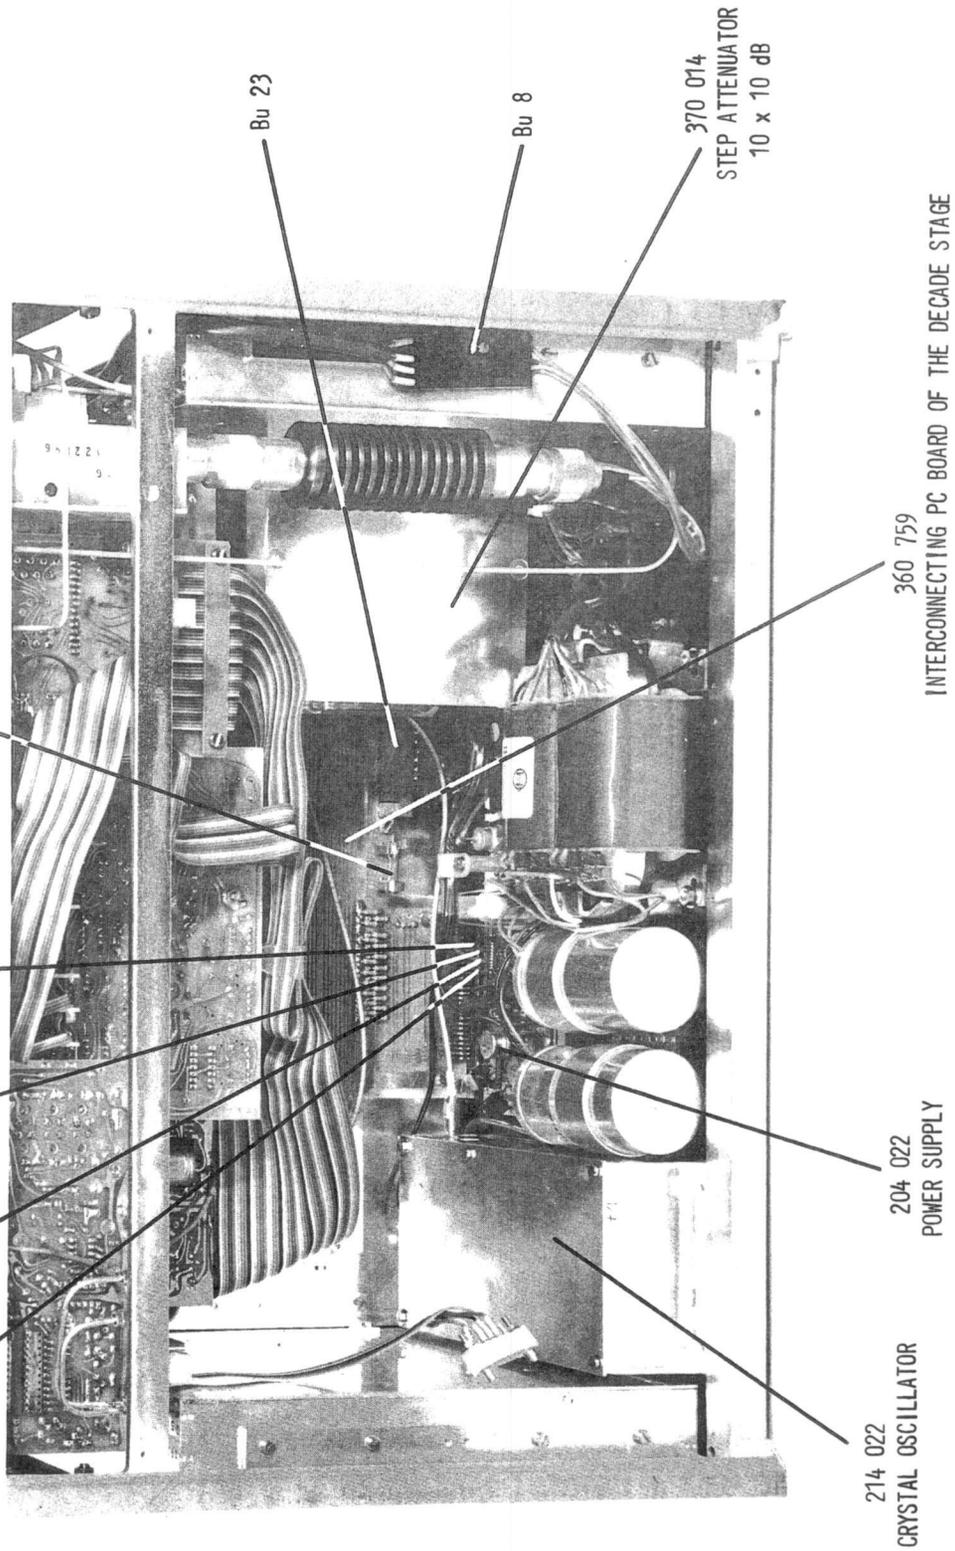

FIG. 3: BOTTOM VIEW
2. The Power Supply 204 022 is located directly on the inside of the instrument rear panel (fig. 3). Use test points recommended in fig. 3 for checking supply voltages. These test points as well as the fuse for the power supply of the Channel Selector Type 4932 are accessible subsequent to removal of the instrument bottom cover. To facilitate repair work on the Power Supply the instrument rear panel can be hinged open after having removed the 4 Phillips head screws connecting the bottom and top frame.
Should the Power Supply need to be operated in the hinged open position the connector St 8 (to mains switch fig. 3) must be disconnected and a two pole short-circuiting link (HNK 898 030) used instead of the mains switch.
- ⑤ Disconnect jack Bu 8 (see also fig. 3)
- ⑥ Disconnect two cable clamps
- ⑦ Disconnect cable from jack Bu 13
- ⑧ Remove 4 x 2 slotted head screws on case frame
7. Crystal Stage 214 022 (fig. 3)
8. 10 x 10 dB Step Attenuator 370 014 (fig. 3)